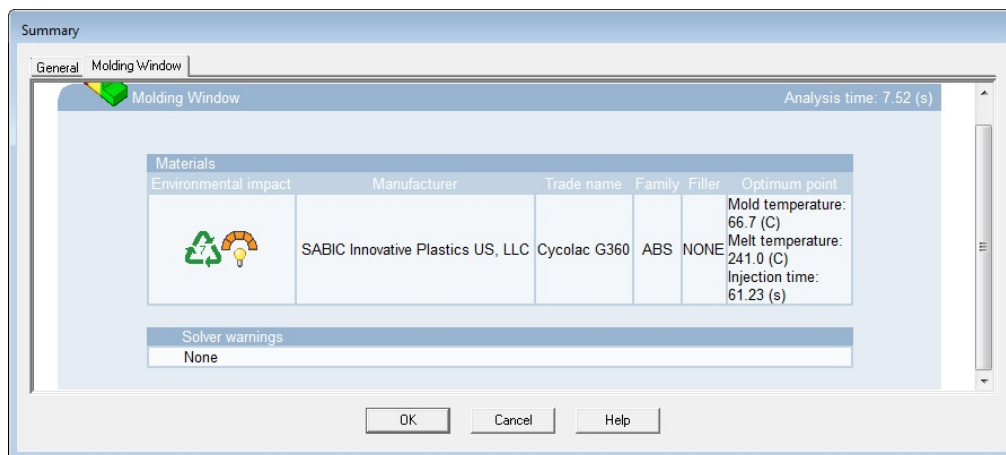

Figure 19-70 The Summary dialog box
4. After the analysis is complete, the **Summary** dialog box is displayed, refer to Figure 19-70. Choose the **OK** button from the dialog box; the suggested process settings are applied.